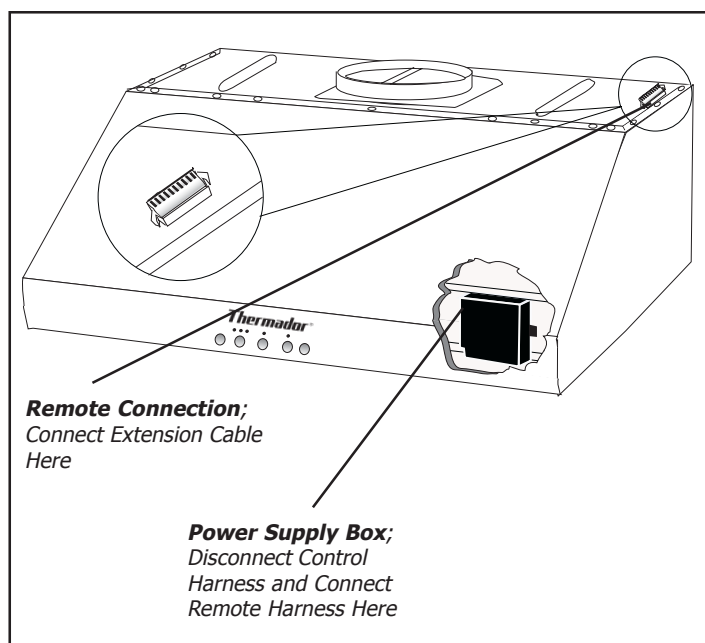

Figure 1: Pro Hood with Light Panel Removed
5. **Connect remote harness** to power supply (See Figure 1). The remote harness is attached to the hood near the black power supply box.
6. **Connect remote control extension cable** to remote connection. See figures 1 and 2 (previous page) for location.